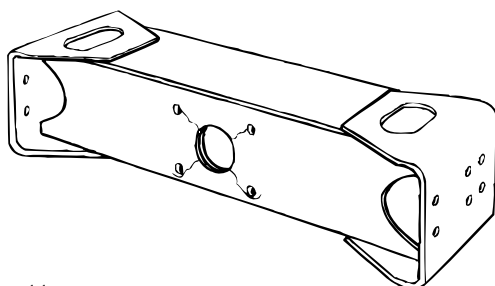

Figure 11
- Also check that there are no cracks in or that there is no deformation of the drawbeam. See figure 11.